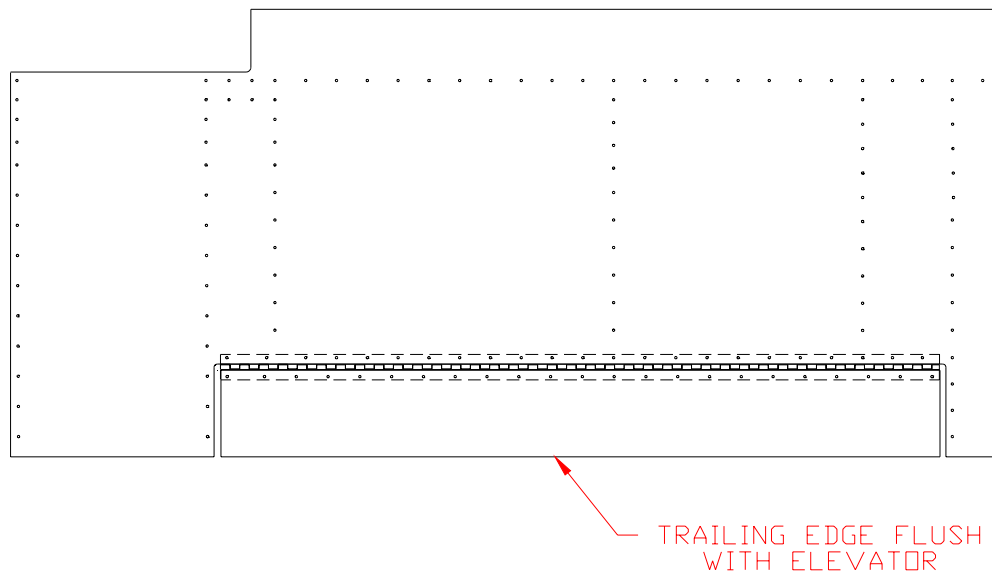

Figure 3.5.4
- 16) Connect the second half of the hinge to the first with the hinge pin. Center the Trim Skin in the gap and drill the #40 holes into the hinge from the Trim skin. Figure 3.5.4.